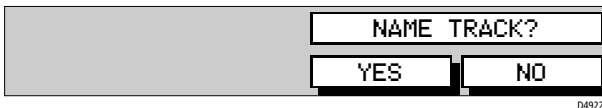

Figure 3-44: Name Track Soft Keys
3. Press SAVE TRACK. The Name Track soft keys are displayed as shown in *Figure 3-44*.